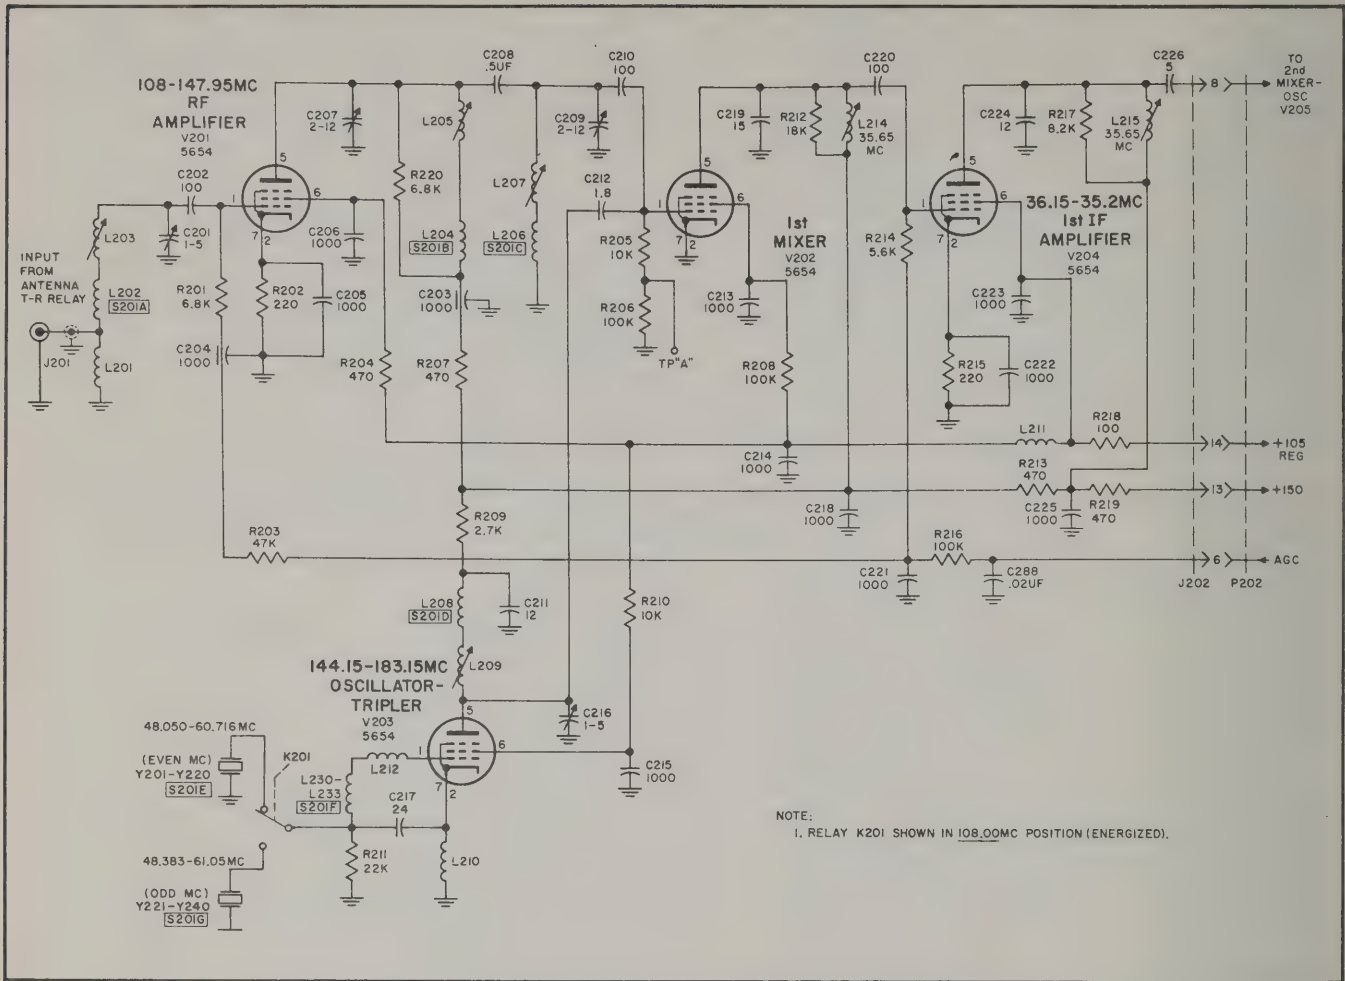

Figure 2-5. Receiver Input Circuits, Simplified Schematic Diagram
(1) RF Amplifier V201 (See Figure 2-5)
(2) Oscillator-Tripler V203 (See Figure 2-5)
V204 (See Figure 2-5)